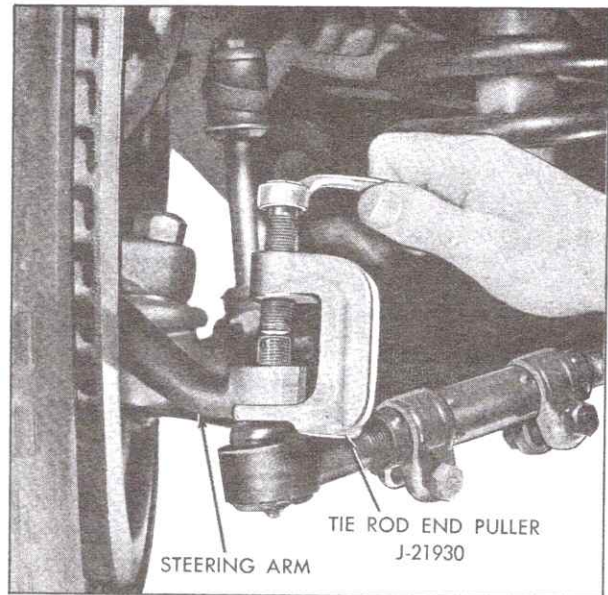

Fig. 9-46 Removing Tie Rod From Steering Arm
2. Remove tie rod pivots from steering arms, using Tie Rod End Puller, J-21930, Fig. 9-46. Be careful not to damage joint seals.